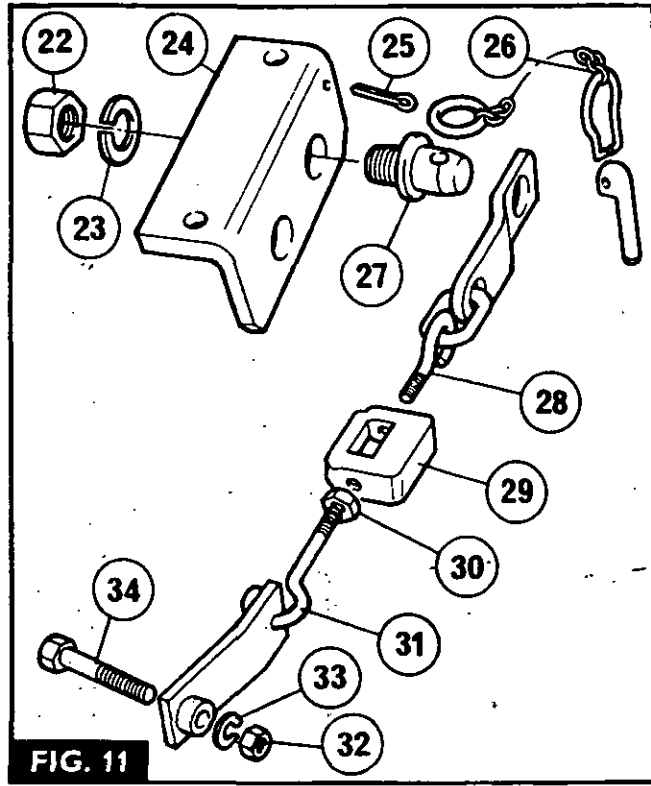

FIG. 11
**Stabiliser Kit Fitment.** Fig 11. 7C-04